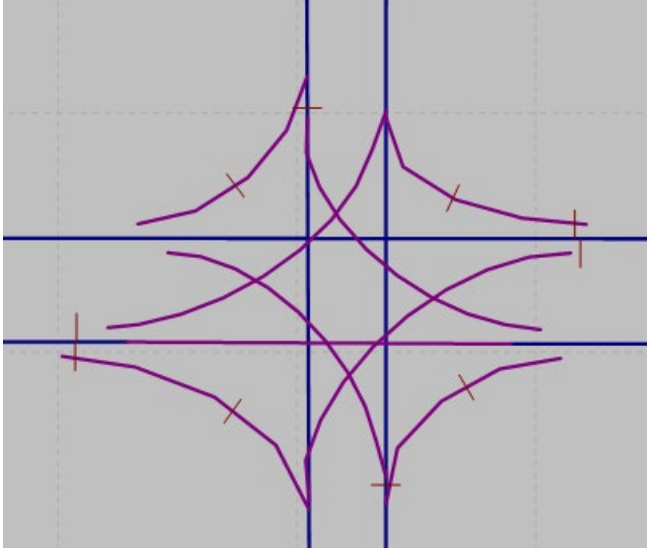

Figure 25: Buzz Blvd. and Burdell Dr. with EB Through Movement Connector
- step iii. Select the downstream *link*. (Be sure you have link selected in the *Network Objects* menu, otherwise the *link* endpoint will not highlight.) Drag the beginning of the *link* to the far side of the intersection. Be sure the new *link* start position is upstream of the SB left and NB right turn *connectors*. The *connector* will automatically lengthen. See *Figure 25*. When dragging the *link* it is critical that you are shortening it and not moving the entire *link*. If you slide the link instead of shortening it the connections to *connectors* along the *link* will be moved as well, creating unrealistic traffic movements.